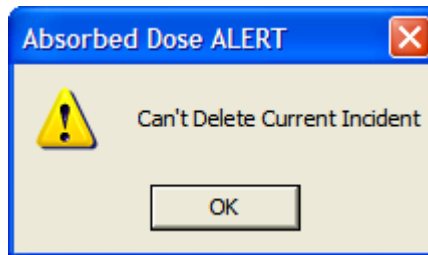

Figure 9-11
3. If the selected incident is the currently active incident, it can not be deleted without first setting another incident as the current incident. Figure 9-11 will appear.